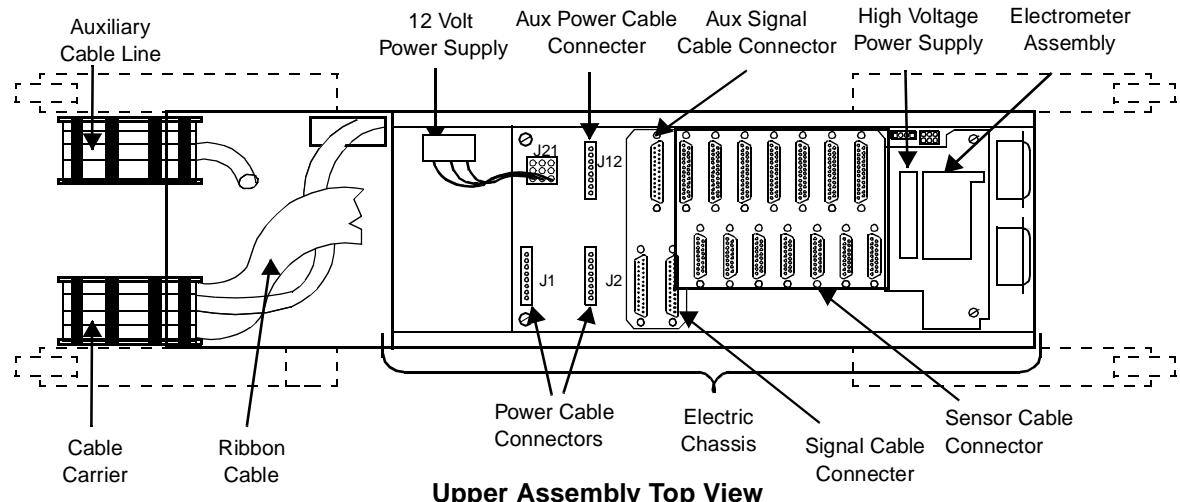
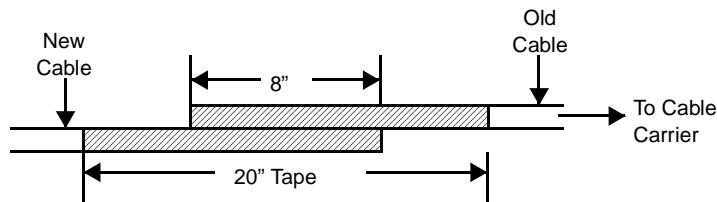

Figure 10-10 Carriage Assembly (Top View)
Figure 10-11 Cable Suspension
Complete the following steps to replace the cable suspension. Refer to Figure 10-10 and Figure 10-11.
9. At the drive end, with both cables out of the carriage, tape the old cable to the new cable using a high-strength tape. For example, use strapping or shipping tape. See Figure 10-11.